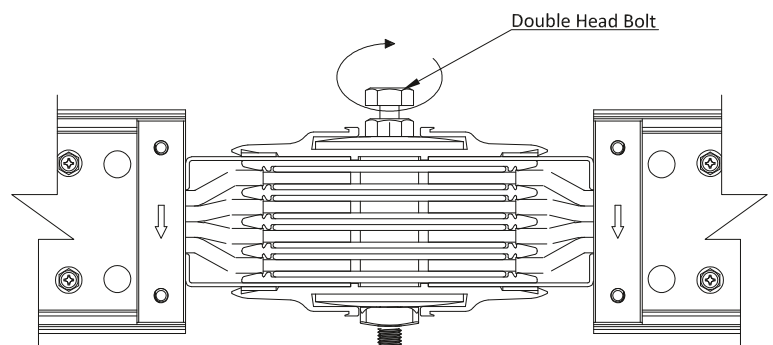

Fig. 7.13.3
5. Tighten the joint bolt to 50 ft-lbs (68N-m) with a 3/4 inch or 19mm socket wrench. When the Belleville washers on both sides are flattened, the bolt is fully tightened. If the double head bolt is used, tighten until the bolt head shear off. (No torque wrench is required) as shown in Fig.7.13.3